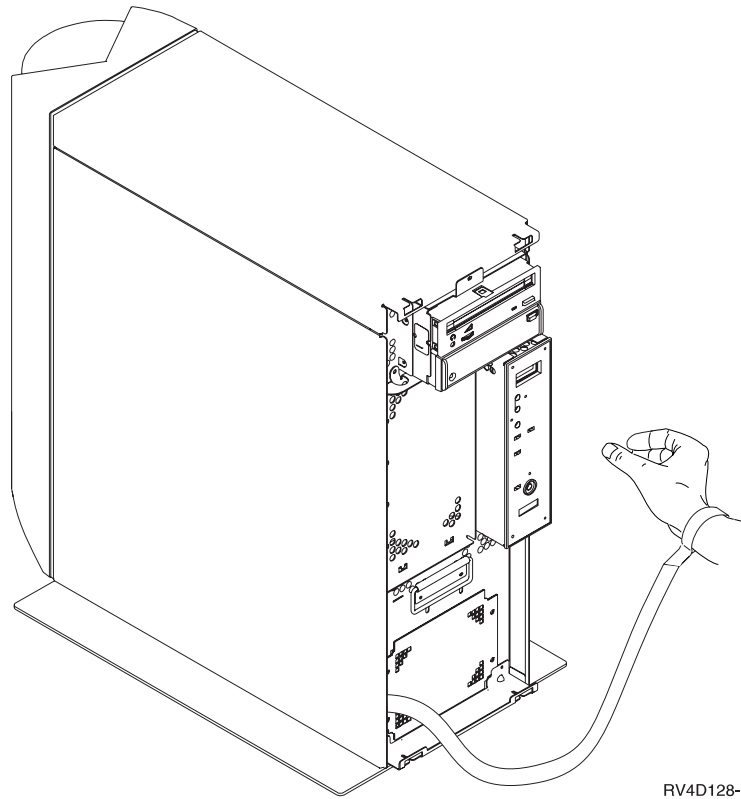

Figure 2. Attach Wrist Strap
- \_\_ 3. Attach the disposable wrist strap to prevent electrostatic discharge from damaging a device. Figure 2 on page 3 shows an example of where to attach the adhesive part of the foil to an unpainted surface.